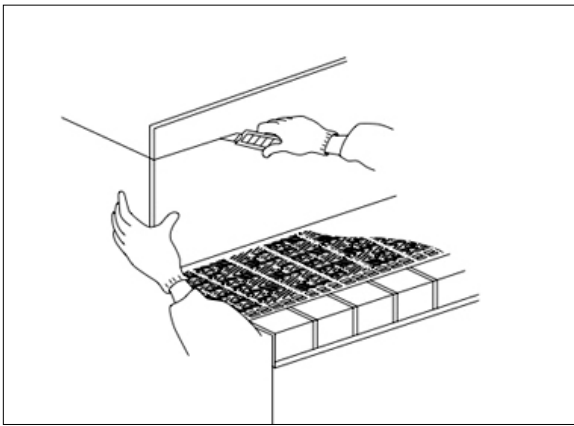

Fig 8
- ◆ After rolling, trim any part of the riser protruding beyond the top edge of the stair. See Fig 8.
- ◆ Once in place and rolled, trim any protruding part. See Fig 8.